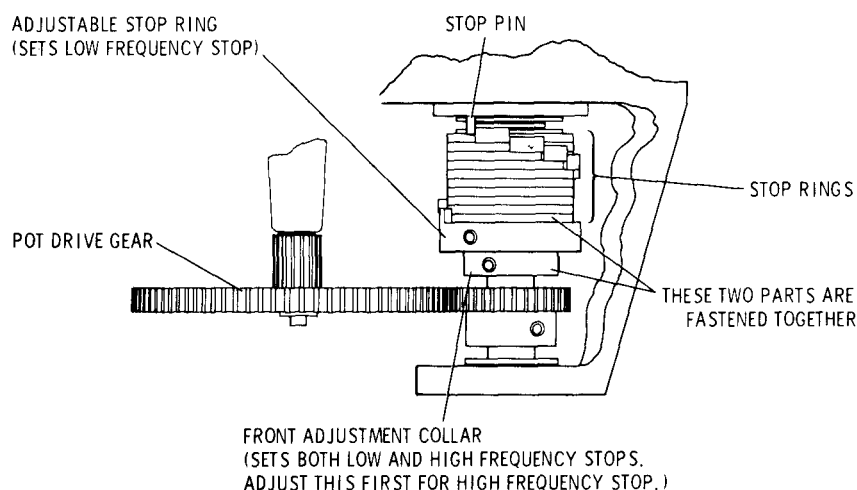

**Figure 5-6. Location of RF Oscillator Stop Adjustments.
5. Tune FREQUENCY TUNE fully ccw. Compare the position of the stop ring teeth with Figure 5-6.